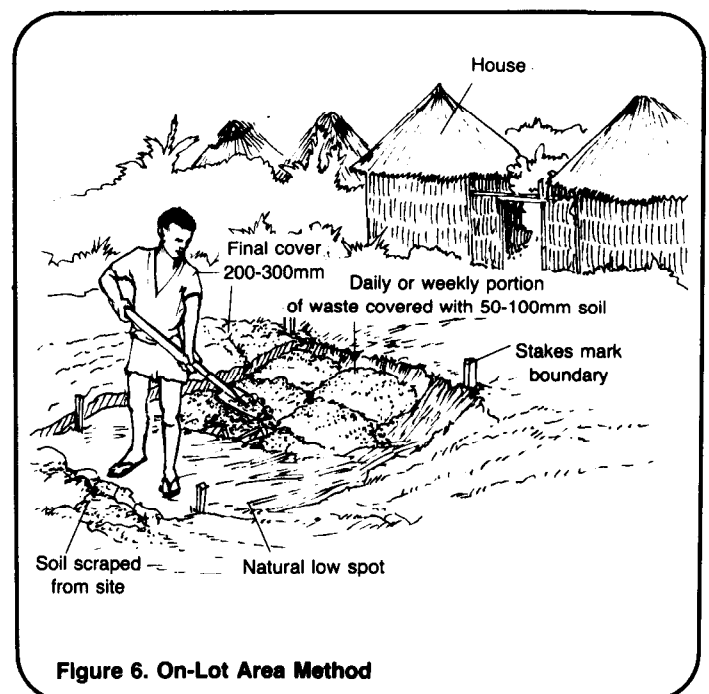

Figure 6. On-Lot Area Method
1. Using the location map, design drawings, and measuring tape, locate the site and mark the boundaries of the depression or low spot with wooden stakes or pointed sticks. See Figure 6.
3. Daily or weekly, dump solid waste in the depression, rake it fairly level, and cover with 50-100mm of soil. See Figure 6.